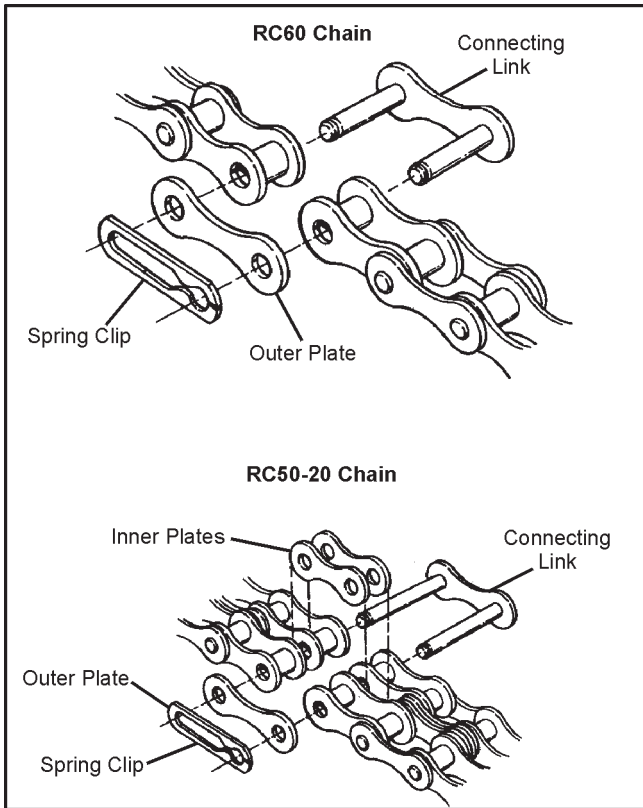

Figure 7-10. Chain connection link components.
2. Pull the ends of the chain together and insert the connecting link as shown in Figure 7-10 and 7-11. When connecting the RC50-2 chain, insert the inside plates before tapping the connecting link into position.